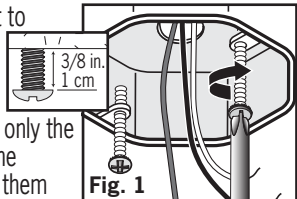
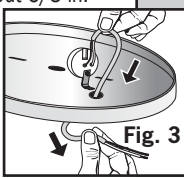
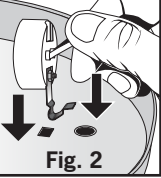

Fig. 1
Fig. 2
Fig. 3
WARNING: Shut off power at the circuit breaker or fuse panel before removing the old fixture (**Fig. 1**). Remove the old fixture. Make yourself a sketch of how the fixture is wired (index the sketch by wire color) or mark the wires themselves with masking tape and a pencil so you will know how to connect the wires to your new fixture (**Fig. 2**). If several wires are involved, however, or if the wiring seems more complicated and perhaps even includes a red wire, take note of the connections before you disconnect them.
- 1 This fixture does not use a mounting bracket to secure it to the electrical box. Instead, it is secured to the box by the included screws specifically designed to ground the pan to a metal electrical box. For safe operation, use only the 1-1/2 electrical box screws (E) included in the hardware kit included with the fixture. Screw them into the electrical box until there is about 3/8 in. between the ceiling and the underside of the screw head (Fig. 1).
- 2 To install the bulb socket (G), snap the metal socket clip into the rectangular hole until you feel it snap (Fig. 2). Feed the bulb socket wires through the circular wire hole, pull them through on the other side as much as you can without pulling it tight (Fig. 3).
- While holding the diffuser in the palms of your hands, apply sufficient pressure onto the glass in order to rotate it counterclockwise until it unscrews from the pan (**Fig. 1**). This will take approximately 1/4 turn. Be careful not to drop the diffuser once it comes loose from the pan.
- Remove the old bulb by grasping it firmly at the plastic base and firmly twist counterclockwise until it “unseats” and lines up with the large end of the openings (**Fig. 2**). Pull straight out. Be careful not to drop the bulb.
- Insert the replacement bulb into the socket and twist the bulb clockwise until the bulb locks into place. The bulb will click when it's secured in the socket (**Fig. 3**). Do not force the bulb into the socket or twist forcefully.